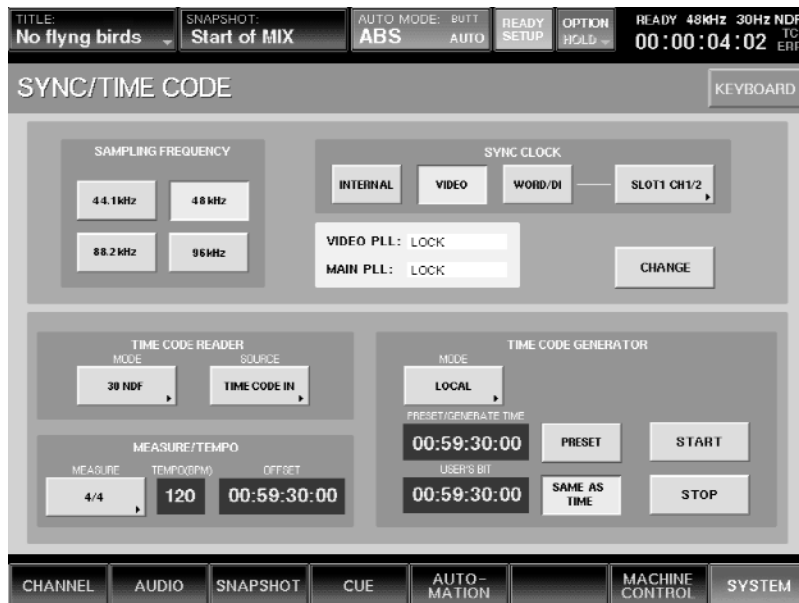

Figure 5
- Go to the Sync/Time Code window (under the SYSTEM tab) and set TIME CODE READER Source to TIME CODE IN. (See Figure 5)